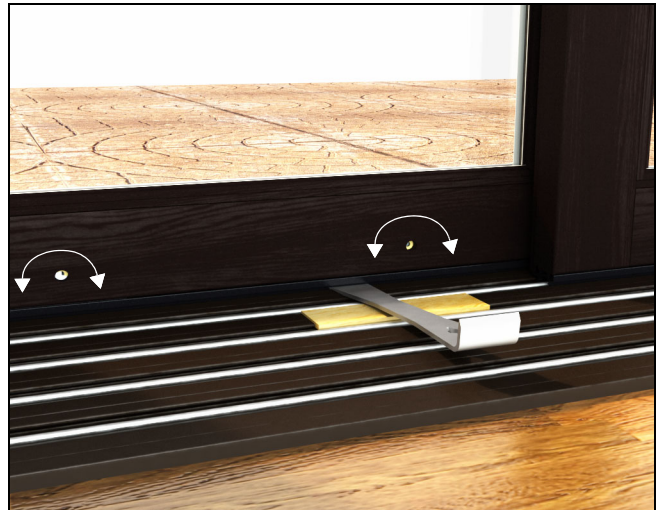

Figure 151
1. *Rollers must be adjusted to raised panel position.* To adjust panel rollers, panel weight must be removed from rollers prior to adjustment. Use a pry bar to lift panel, ensuring protection of sill. See figure 151. Using a #3 Phillips screwdriver, rotate screwdriver in adjustment holes until arrows showing adjusting